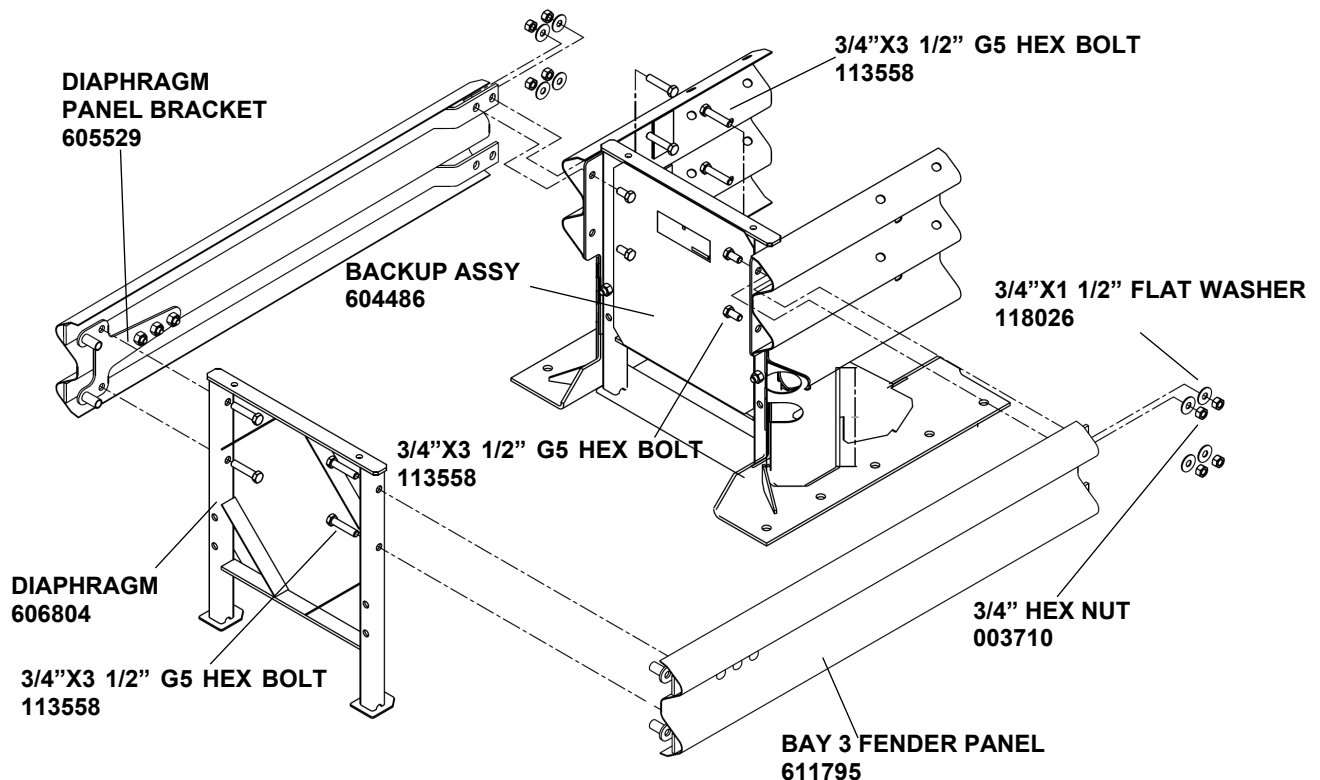

Figure 7
- c. Hold up one of the Bay 3 Fender Panels to the Backup and Diaphragm aligning holes (Figure 7). Place bolts through the holes in the Backup and rear of the Fender Panel for support and hand-tighten nuts. Next, place bolts through the Diaphragm and Panel Bracket in the front of the Fender Panel in order to hold the Panel in place (do not use nuts at this time). Repeat this procedure for the Fender Panel on the opposite side.